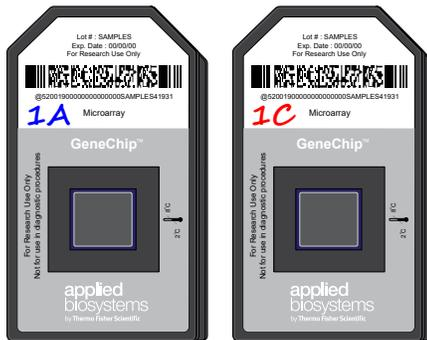

Figure 27 Arrays for sample 1 are paired together. The A (AT channel) is on the left and the C (GC) channel is on the right.
3. Pair the arrays associated with a single sample together. (Figure 27.)